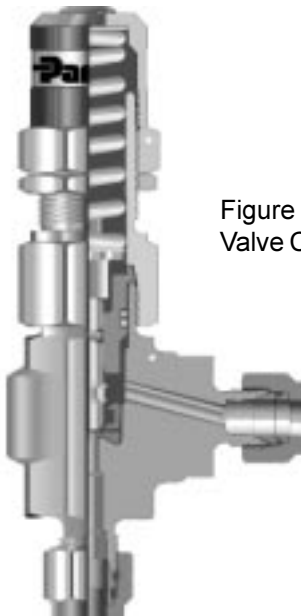

Figure 1: RH Series Relief Valve Cross Sectional View
2. Using the appropriate mandrel, place the O-ring and Back-up ring onto the Body Bonnet. Be careful to insure proper orientation of the seals. Refer to Figure 1 or 2 for proper orientation.